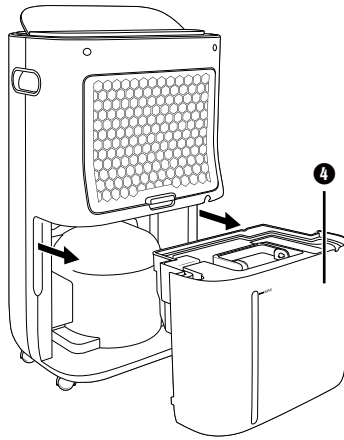

Fig. 1
- ◆ Carefully pull the water tank ④ out of the appliance using the recessed grips on the side. Use the handle to transport the water tank ④ (see figure 1).